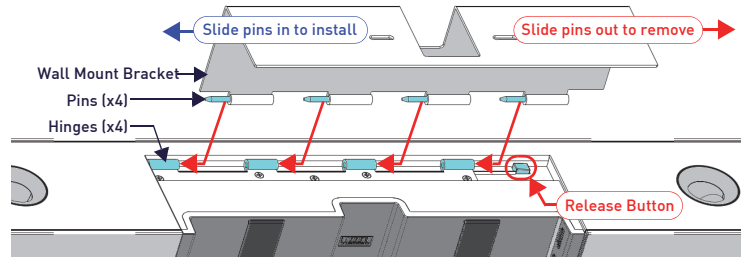

FIG. 3 ACV-5100 BOTTOM VIEW - REMOVING THE BRACKET
- Lift the Wall Mount Bracket off of the hinges to remove (FIG. 3):
- Attach the ACV-5100 to the Bracket by sliding the pins on the Bracket into the hinges on the rear of the main unit (see FIG. 3):
Note: Press the Bracket into place so that the last pin depresses the Release Button, allowing the pins to slide into the hinges (see FIG. 3)